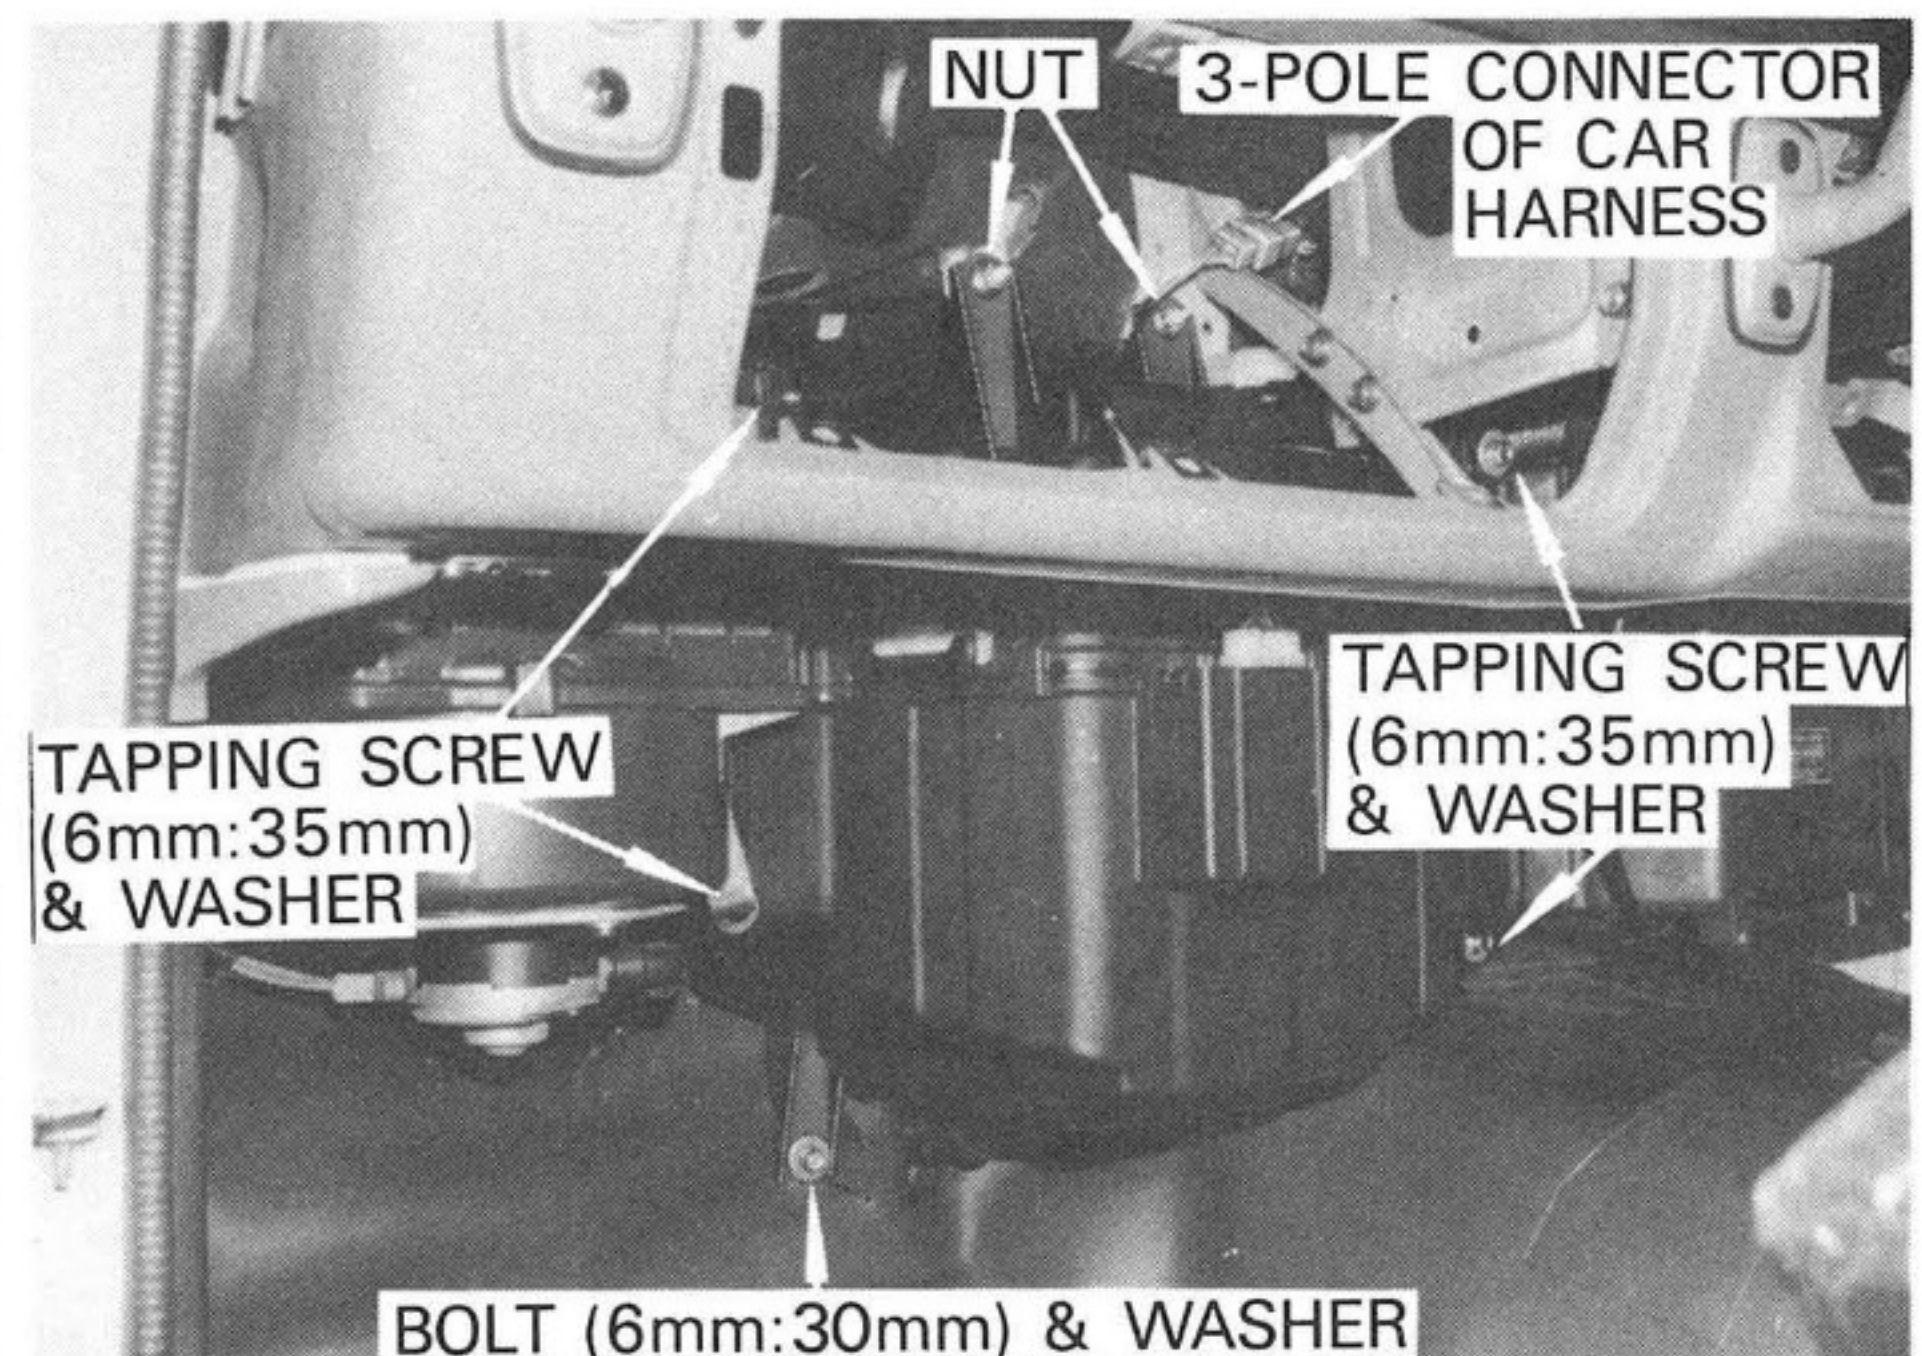

Fig. 7
- D) Install the cooling unit using five bolts and two nuts. See Fig. 7.